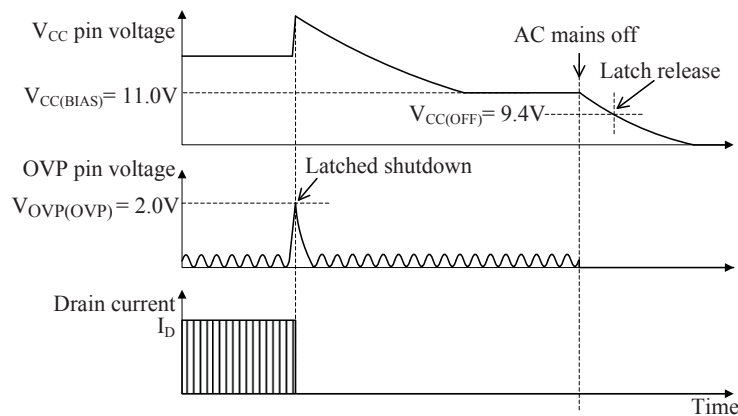

Figure 21. Waveforms when OVP pin OVP function is being activated
• OVP Pin Overvoltage Protection. Figure 21 shows the waveform of the OVP function on the OVP pin. When the OVP Pin voltage with reference to the S/GND pin reaches  $V_{OVP(OVP)} = 2.0\text{ V}$  or more, OVP is activated, and the IC stops switching operation in latch mode. This input voltage must be less than the absolute maximum rating, 5 V.